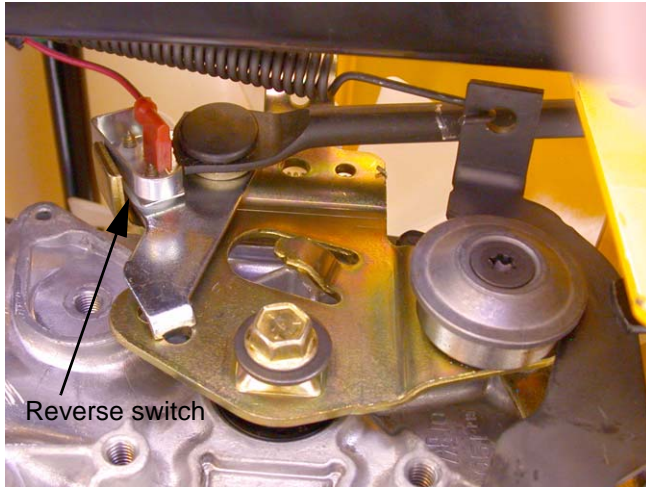

Figure 25.8
25.8. As the hydro control rod moves back on the input arm, it first moves a ground contact against the reverse safety switch. See Figure 25.8.